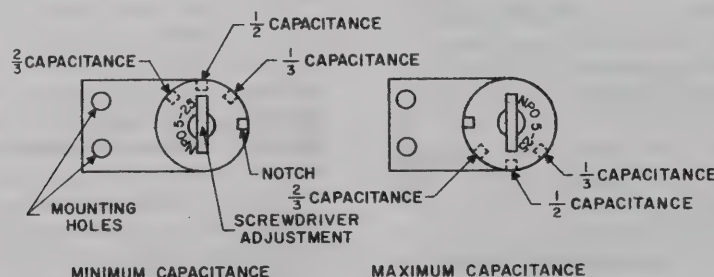

Figure 4-2. Ceramic Trimmer Capacitors
a. Adjust (A) 3.5 trimmers (C101, C41, C52, and C69) to 2/3 maximum capacity. Adjust C65, (C)14 DRIVER PLATE trimmer, to 1/3 maximum capacity. Adjust all other ceramic trimmer capacitors, except CAR BAL capacitor C11, at 1/2 maximum capacity. Make no changes in settings of neutralizing capacitors C55, C57, and C71. Figure 4-2 shows maximum, minimum, and half-capacity settings of ceramic trimmers.